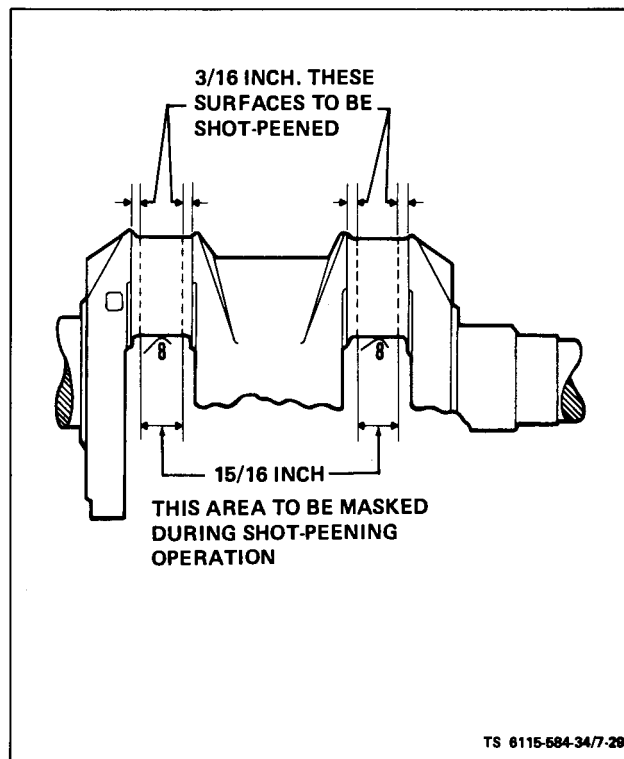

Figure 7-29. Crankshaft Peening
(1) Crankshaft. Clean crankshaft and blow out all oil passages. Check journals for out-of-round, taper, grooving or ridges. Pay particular attention to ridges or grooves on either side of oil hole areas. Unusual conditions here often point to previous neglect of oil changes. If journal dimensions are not within limits or journals are scored, metallize and regrind crankshaft to standards.
(2) Bearings. Replace bearings if clearances are greater than limits (see table 1-2), or if bearings are worn, grooved or broken.
(3) Rear Oil Seal. Inspect seal for wear or damage which might cause it to leak.
c. Rebuild Crankshaft. If crankshaft requires regrinding, metallize and regrind to standards. Special procedures must be observed when reworking diesel crankshafts. In addition to regrinding, the crankshaft must be shot-peened and super-finished. Failure to shot-peen the crankpin fillets is likely to cause early failure. When the shaft is reground, follow this data and figure 7-29 to shot-peen each crankpin fillet.
- (1) Almen gauge reading, 0.012-A.
- (2) Peen with 0.019 inch diameter cast steel shot.
- (3) Peen for 30-seconds on each crankpin fillet.